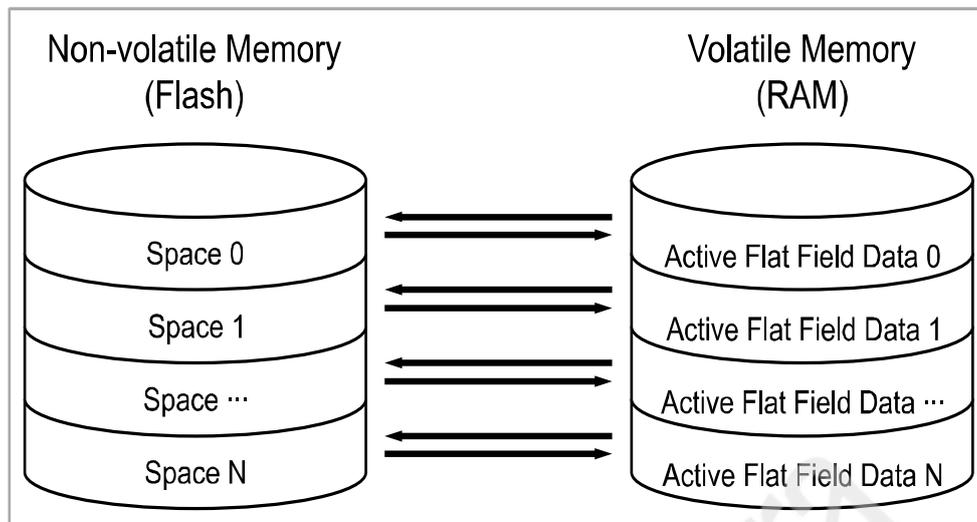

Figure 5-10 Flat Field Data Selector
- 3 Execute the Flat Field Data Save parameter to save the generated Flat Field data into the non-volatile memory. When the scaled down Flat Field data are used for correction, they are expanded and applied with a Bilinear Interpolation as shown in the <Figure 5-10 Bilinear Interpolated Magnification>. To disregard the generated Flat Field correction data and load the existing Flat Field correction data, execute the Flat Field Data Load parameter before executing the Flat Field Data Save parameter.